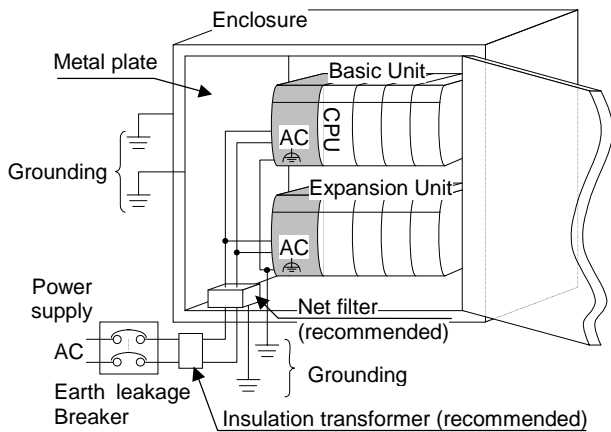

Figure 1 Power wiring example
- The basic and expansion unit should be connected to common power source and powered up together as shown in Figure.1.